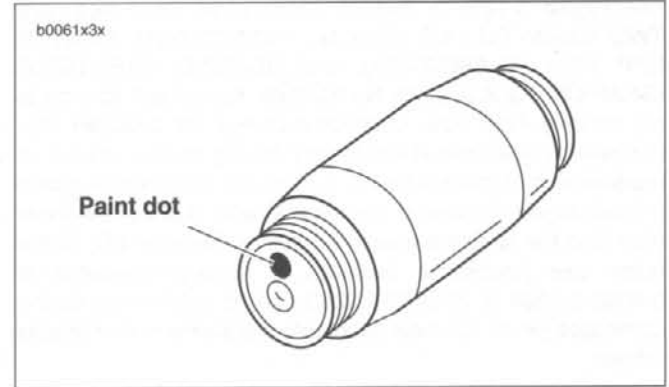

Figure 3-104. Oversize Crank Pin Identification
4. See Figure 3-104. Two oversize (OS) crank pins are available. Identify OS crank pins by the blue or red paint dot on the ends of the pins. Standard size crank pins will not be marked.